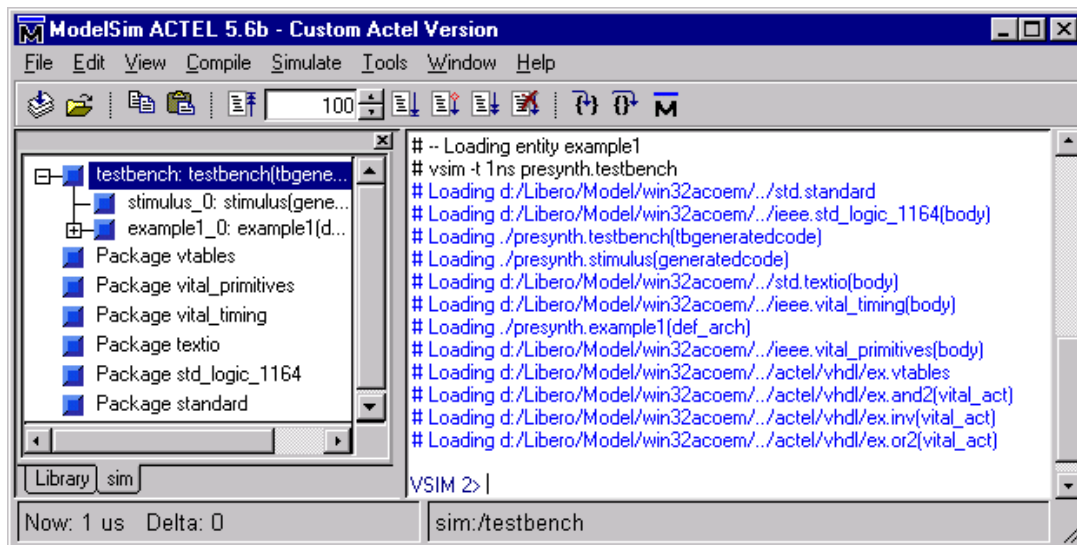

Figure 16 - ModelSim for Actel main Window after compiling
3. The ModelSim for Actel VHDL or Verilog Simulator will open and compile the source files (Figure 16).